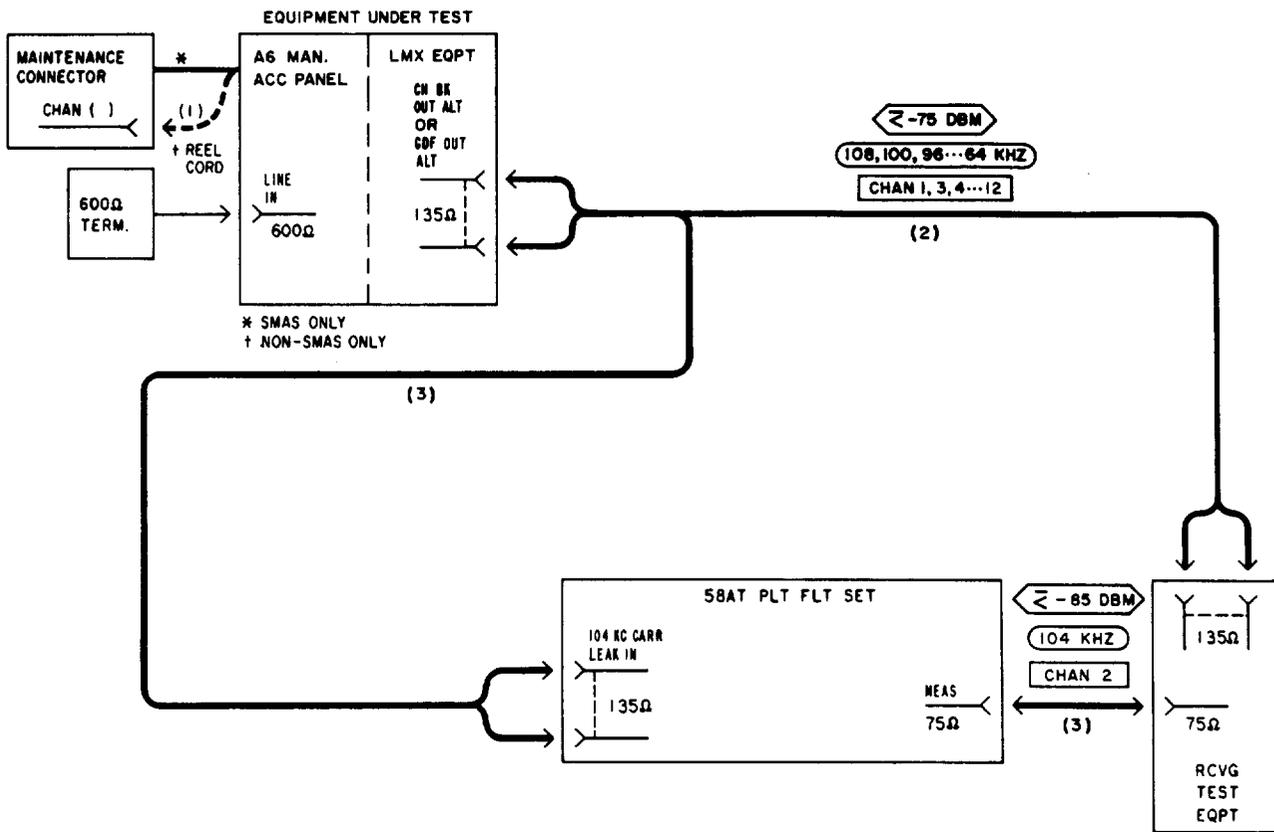

Fig. 4—Patching Diagram—Carrier Leak Test
2b†	Connect the retractable cord (on the 22AU MAP) to the CHAN BANK connector (on the maintenance connector) for Channel 1 [patch (1), Fig. 4].
5	Insert a 262B plug (600-ohm termination) in the LINE IN jack (Fig. 4).
6	At the LMX equipment, connect the RTE to the CH BK OUT ALT (LMX-2) or GDF OUT ALT (LMX-3) jack [patch (2), Fig. 4].
10†	Remove the retractable cord (on the 22AU MAP) from the channel under test [patch (1), Fig. 4].
12	At the LMX equipment, remove patch (2), Fig. 4.
13	At the LMX equipment, connect the RTE, via the 104 KC CARR LEAK IN/MEAS jacks on the 58AT pilot filter set, to the CH BK OUT ALT or GDF OUT ALT jack [patch (3), Fig. 4]. Note: If desired, the correct frequency range can be located via the 104.08 KC PIL IN/MEAS jacks on the 58AT pilot filter set. The measurement is made via the 104 KC CARR LEAK IN/MEAS jacks.
15	At the LMX equipment, remove patch (3), Fig. 4.